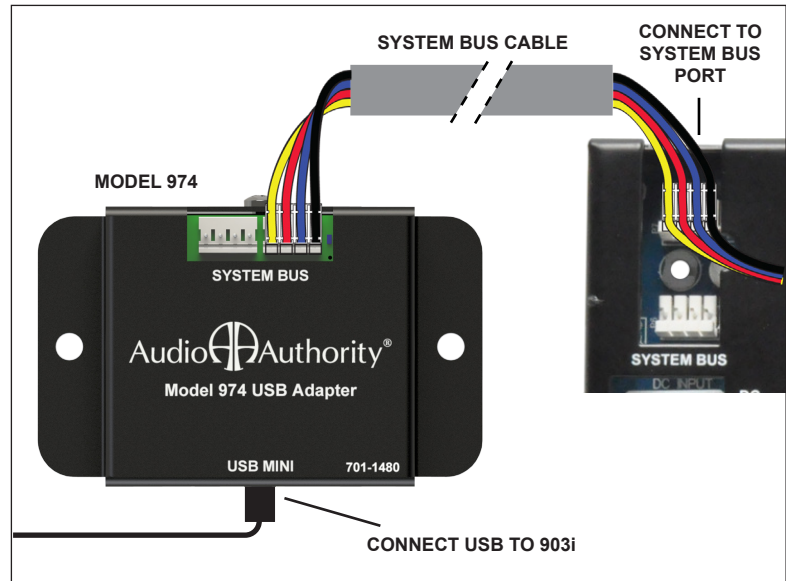

Figure 37. 903i connection diagram.
- B. Connect the Model 974 USB to Serial Adapter system bus port to any vacant Access System Bus header. Connect the USB mini from the 974 to the 903i USB port (see Figure 37). Securely mount the Model 974. Connect Power and bottom cover.